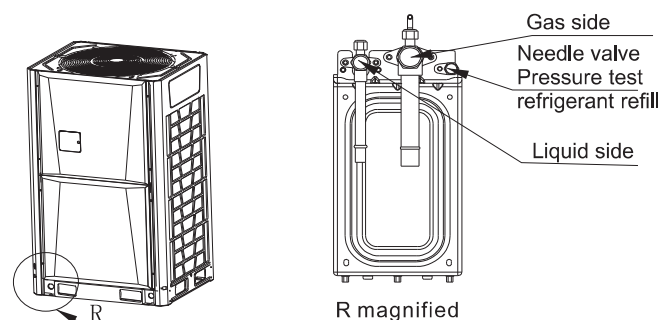

Fig. 3.7 Connecting tubes
- 1) The unit of 16HP is set at the 1st manifold (see Fig.3.7).